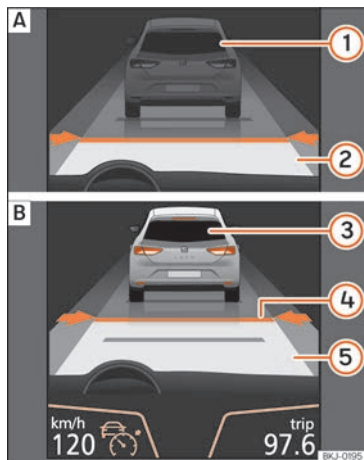
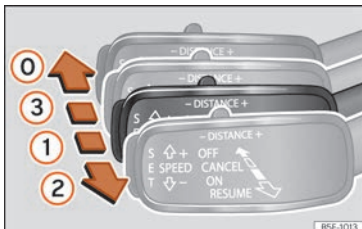
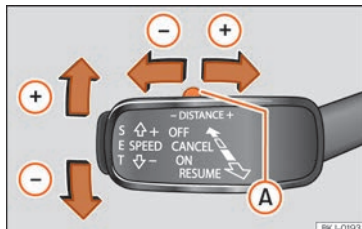

Fig. 270 On the instrument panel display: (A) ACC inactive (Standby). (B) ACC active.
Fig. 272 On the left of the steering column: third lever for operating the Adaptive Cruise Control.
Fig. 273 On the left of the steering column: third lever for operating the Adaptive Cruise Control.
Instructions on the display » Fig. 270:
When the Adaptive Cruise Control (ACC) is connected, the green control lamp (🟢) will light up on the instrument panel, and the programmed speed and ACC status will be displayed »» Fig. 270.
»» Fig. 273 button. If you wish to increase or reduce speed by intervals of 1 km/h (0.6 mph), move the lever to position ② »» Fig. 272 or press the **SET** button, respectively.
The set speed can be changed when the vehicle is stopped or during driving, as you like. Any modification to the programmed speed will be shown on the bottom left part of the instrument panel display »» Fig. 270.
To increase/reduce the distance level, press the rocker switch towards the left/right »» Fig. 273 (A).
»» Fig. 272. At this point, the image of the ACC on the instrument panel display will switch to Active mode »» Fig. 270.
To disconnect the ACC move the lever to the ③ position »» Fig. 272 (engaged). An **ACC deactivated** message appears and the function is totally deactivated.
If you do not wish to disconnect the ACC, just to switch it temporarily to inactive mode (Standby), move the third lever to position ③ »» Fig. 272 or press the brake pedal.